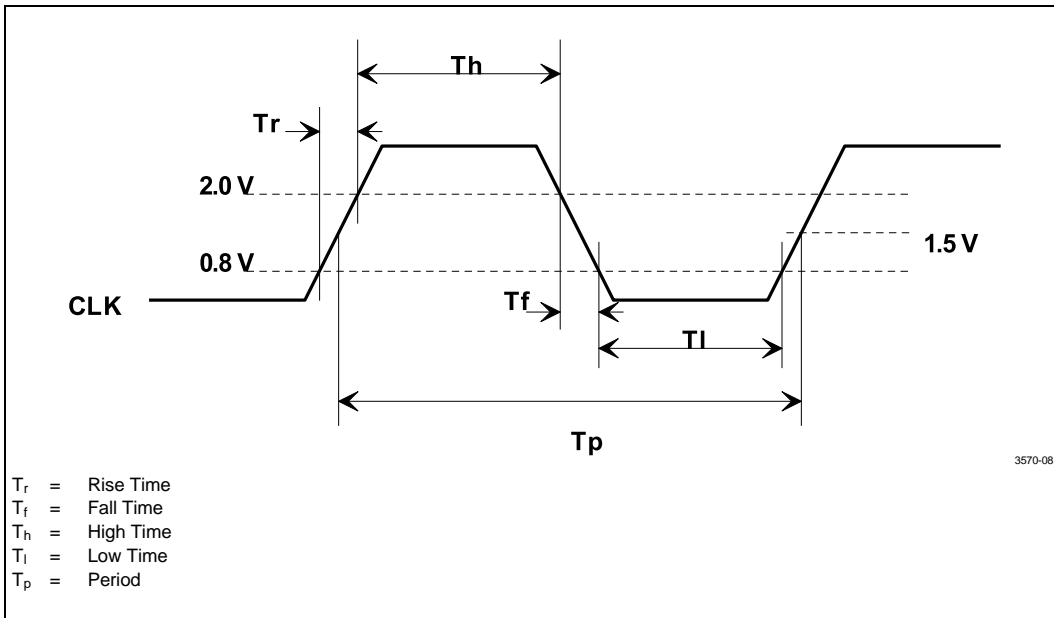

Figure 8. Generic Waveform
7. Specified over the clock rise time (Tr) and fall time (Tf) ranges of 0.3 ns to 2 ns for these signals, between 0.8 V and 2.0 V (as defined by Figure 8).
5. Specified over the rise time (Tr) and fall time (Tf) ranges of 0.3 ns to 2 ns for these signals, between 0.8 V and 2.0 V (as defined by Figure 8).
- Specified over the rise time ( $T_r$ ) and fall time ( $T_f$ ) ranges of 0.3 ns to 2 ns for these signals, between 0.8 V and 2.0 V (as defined by Figure 8).